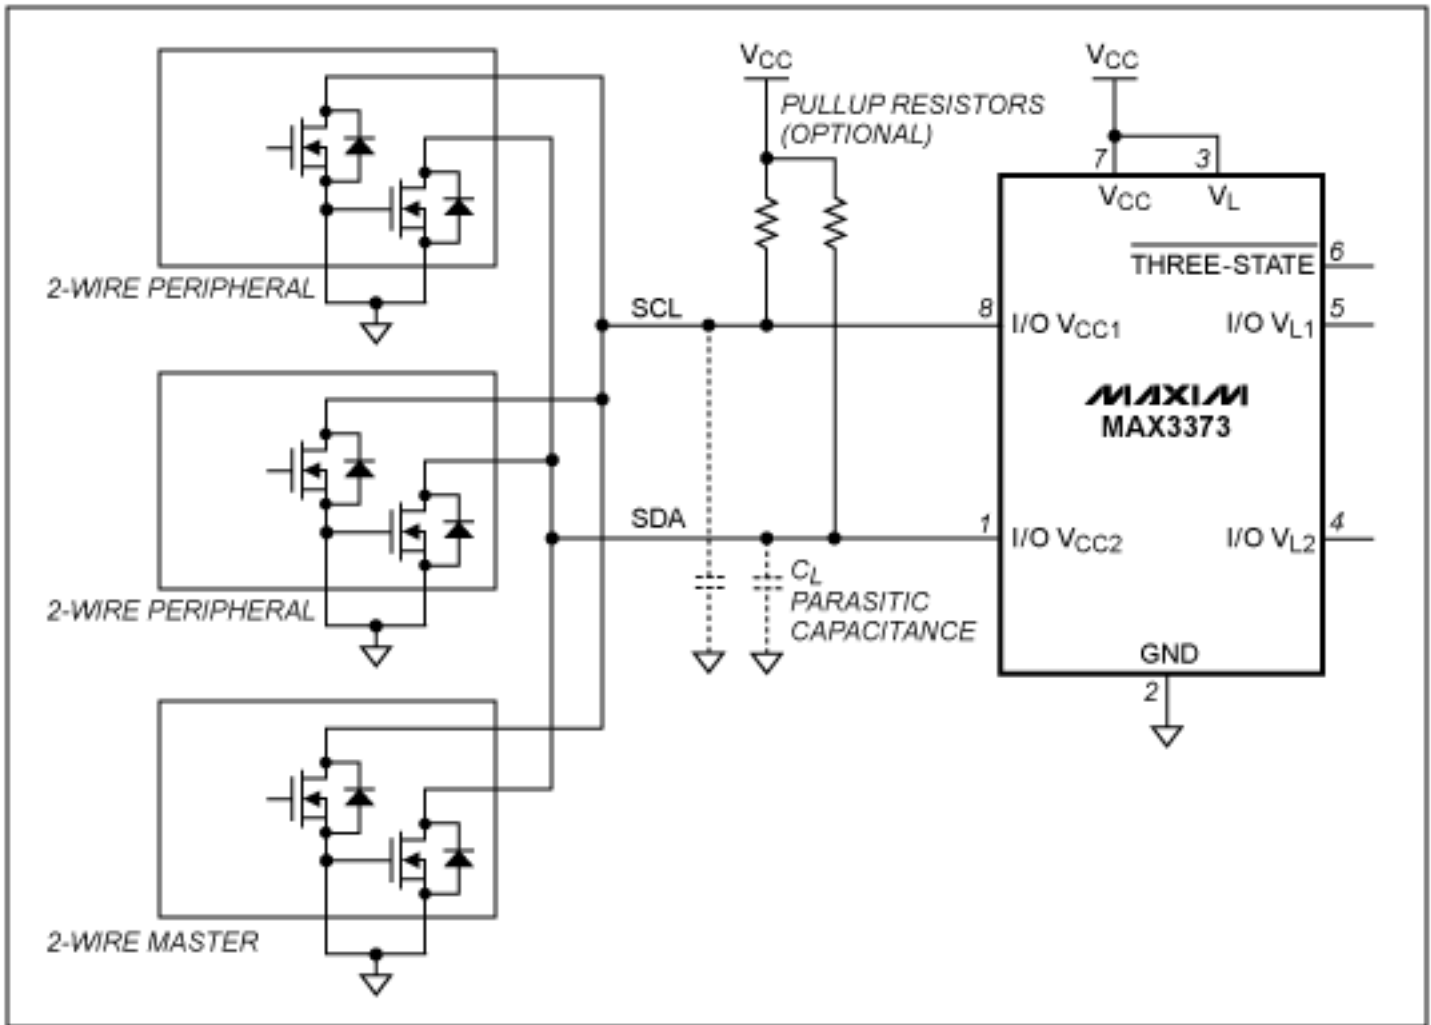

Figure 1. The MAX3373 utilizes rise-time acceleration circuitry to drive the high capacitance on a fast bus.
**Figure 1** illustrates a rise-time accelerator circuit that uses the MAX3373 to speed rise time while improving noise immunity and minimizing power dissipation. The MAX3373 low-voltage level translator is used here for its ability to accelerate rise time, rather than its capability as a translator. When this IC detects a voltage rise on an I/O pin, it briefly turns on an internal strong pullup (a pFET), which quickly charges the parasitic bus capacitance. The accelerator circuit is then disabled after a short time, leaving only the internal 10kΩ pullup resistors (plus any external pullups) to maintain the high logic level.